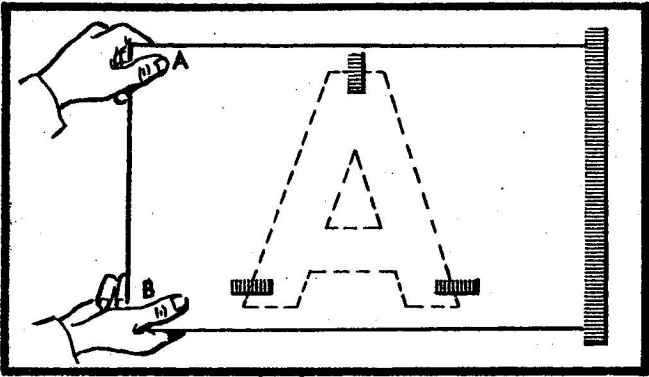

Figure 3
- (f) Lift corners marked A and B in Figure 3. Keeping the application tape (Item 4) taut, pull firmly to the right. The decalcomania and tape will come up together. Continue pulling until the entire decalcomania is separated from the surface.